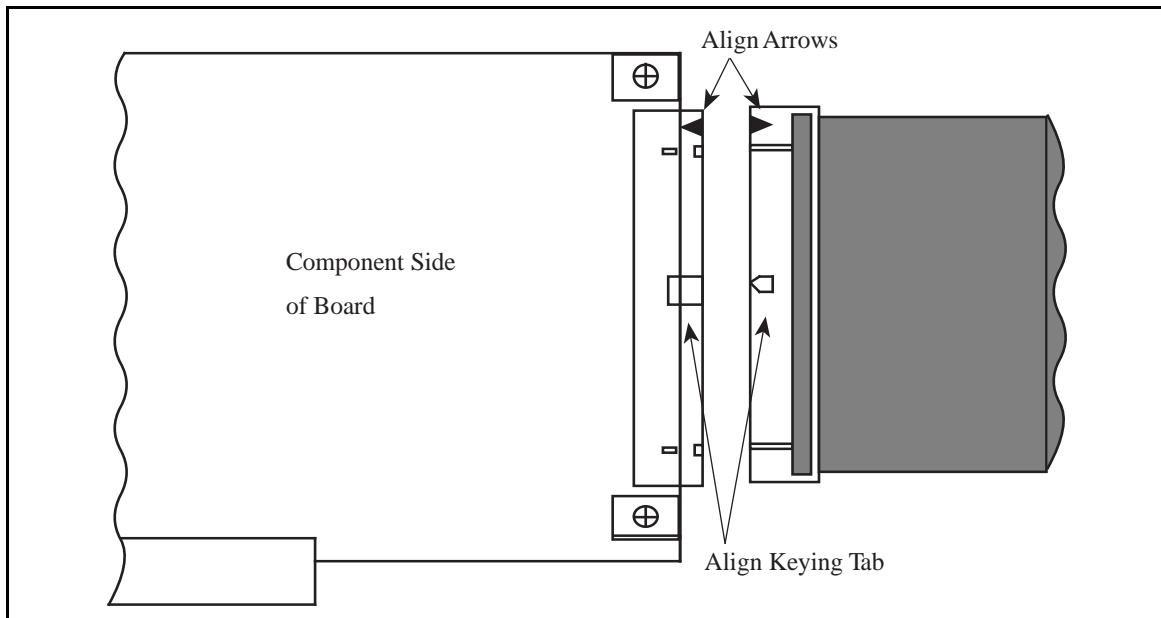

Figure 1. Connecting the 100-Pin Connector to the PC-DIO-96 or NB-DIO-96
1. Plug the 100-pin connector into the 100-pin rear panel connector on the board. Align the arrows as shown in Figure 1.